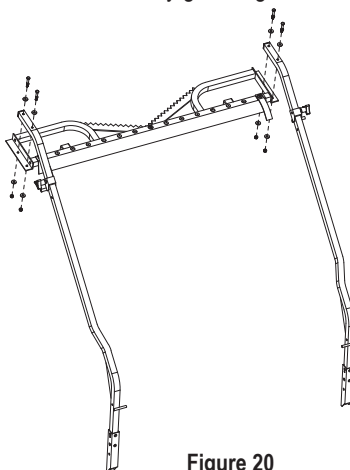

Figure 20
STEP 5: Install the tree blade onto the uprights using four (4) 1/4" x 1 3/4" bolts, eight (8) washers, and four (4) locknuts as shown in Figure 20. NOTE: The seat rivets must be facing upward.